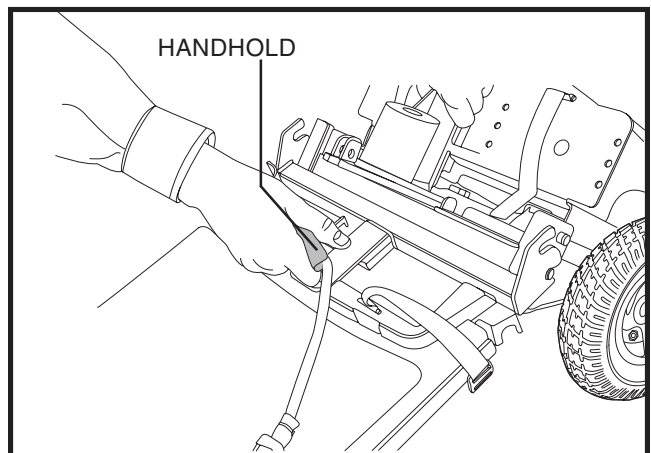

Figure 16. Frame Separation
11. Pull up on the handhold (located on the front section) and push back on the seat post, then gently separate the sections of the scooter. See figure 16.